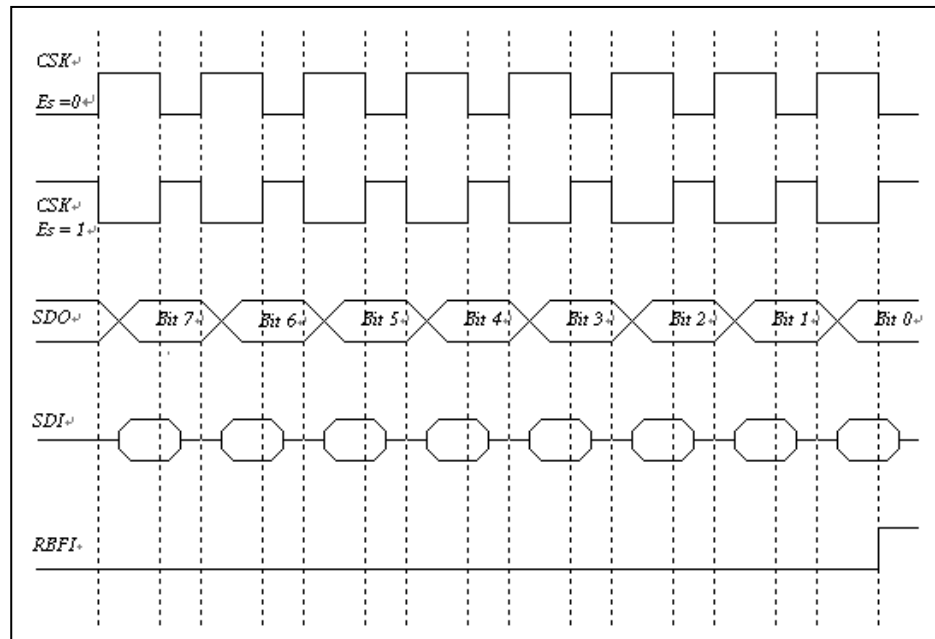
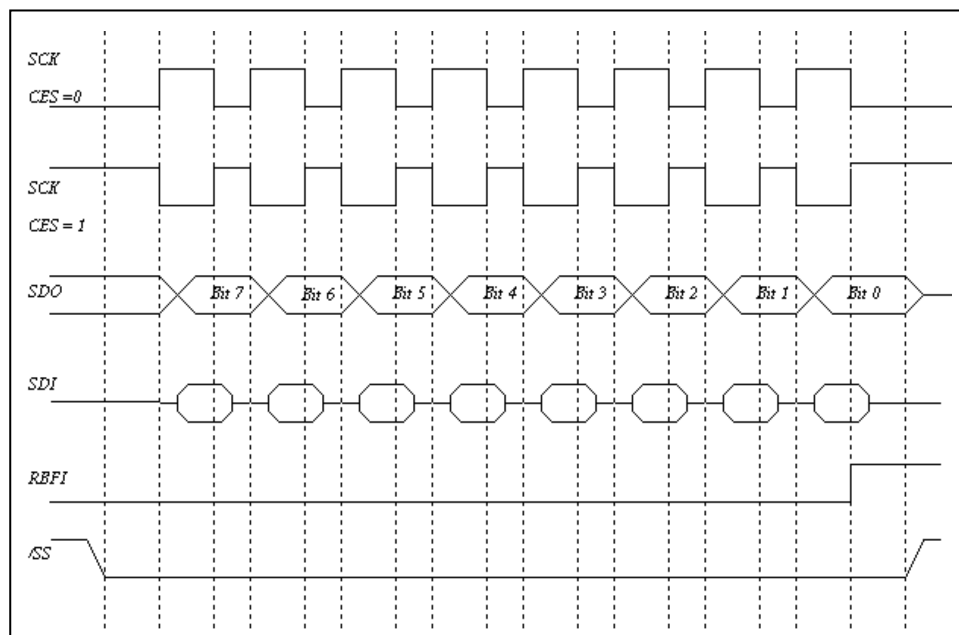

Figure 6-10a SPI Mode with /SS Disabled Timing Diagram
Figure 6-10b SPI Mode with /SS Enabled Timing Diagram
- Timing is shown in Figures 6-10a and 6-10b below.
- Timing is shown in Figures 6-10a and 6-10b.
The SCK edge is selected by programming the bit CES. The waveform shown in Figure 6-10a above is applicable regardless of whether the eKTF6708 is in Master or Slave mode with /SS disabled. However, the waveform in Figure 6-10b below can only be implemented in Slave mode with /SS enabled.